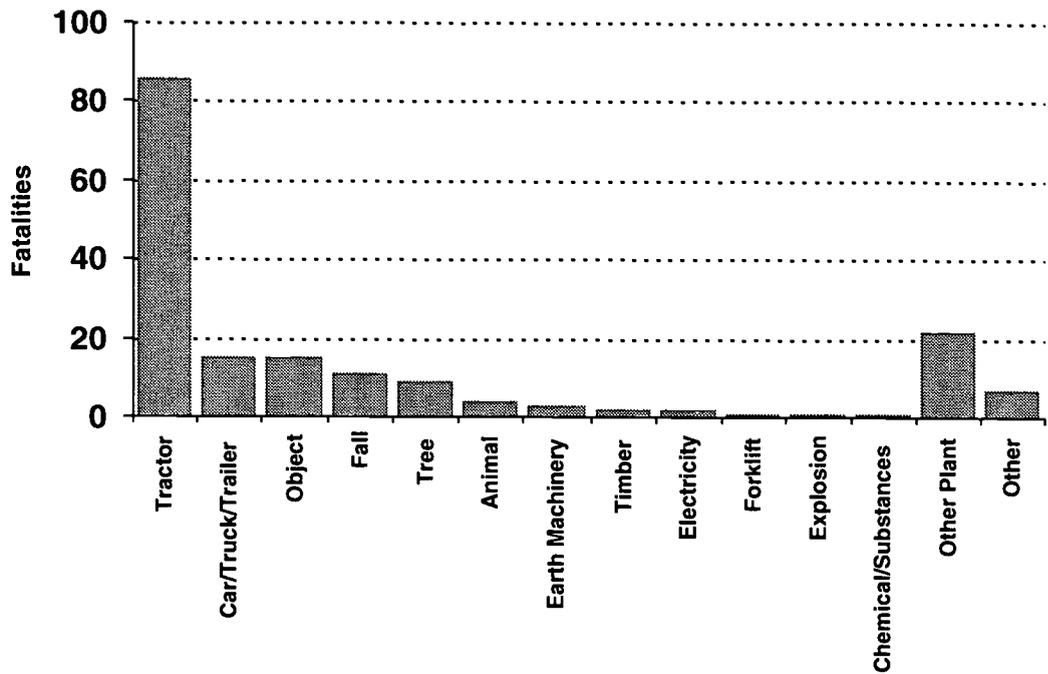

Figure 13: Farm fatalities and cause
4. Look at the graph in Figure 13. This is a graph about farm fatalities investigated by the Victorian WorkCover Authority and what caused the deaths.